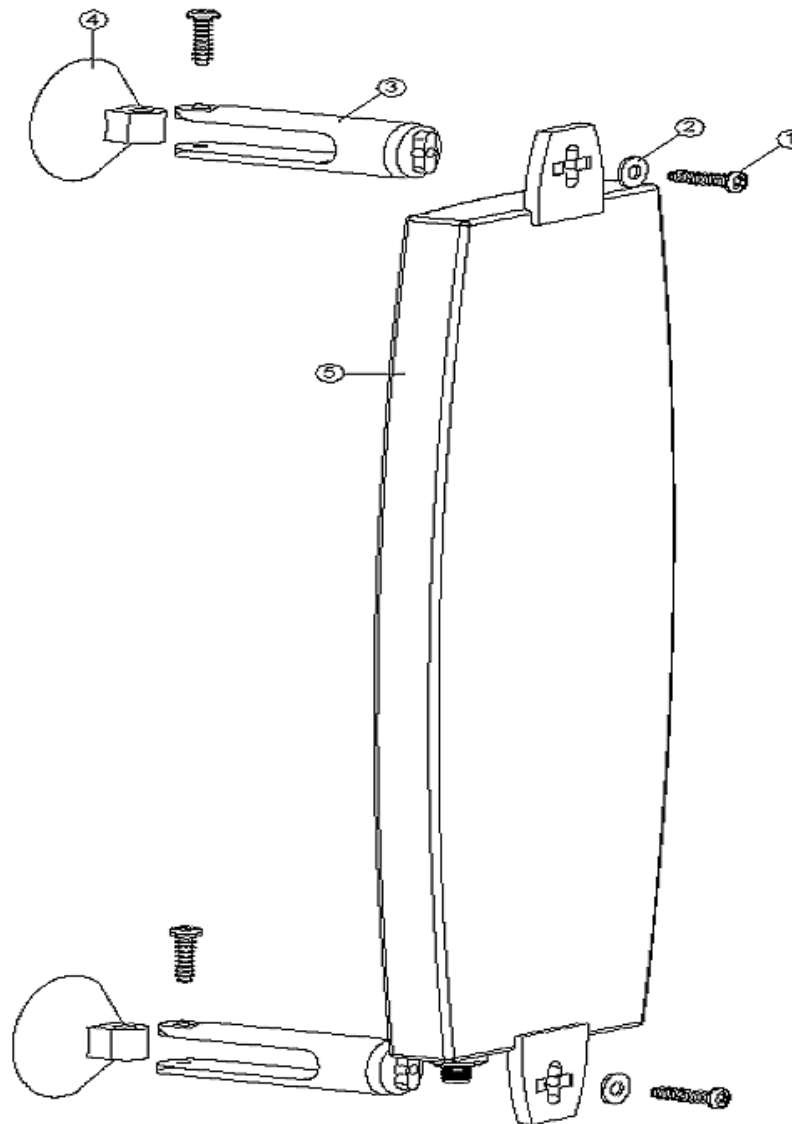

Figure 2-17: Window Mounting the 3.5 GHz Detached Antenna, with Rotation Capability
- 1 Attach the rotation bars to the antenna and the suction cups to the rotation bars. Refer to Figure 2-17 for directions.